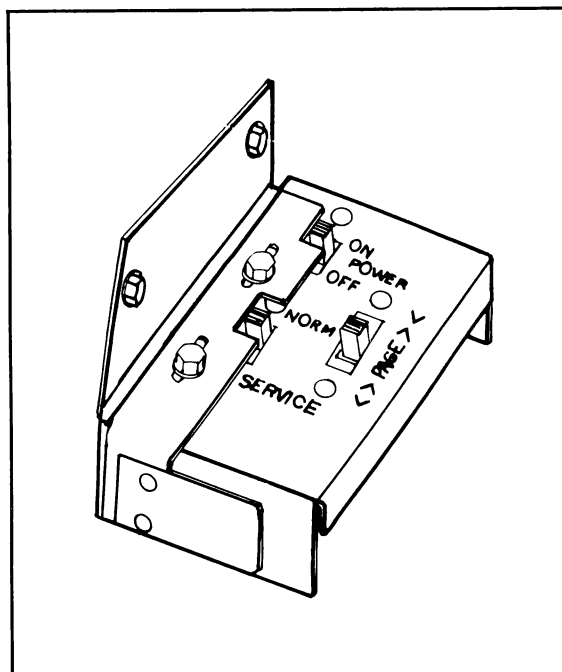

Figure 3-2. Service Switch
1. Open the top door and place the SERVICE switch (figure 3-2) in the SERVICE position. The phonograph display will say * SERVICE MODE *.
2. Move the SERVICE switch to the SERVICE position, if not already done (*refer to figure 3-2*).